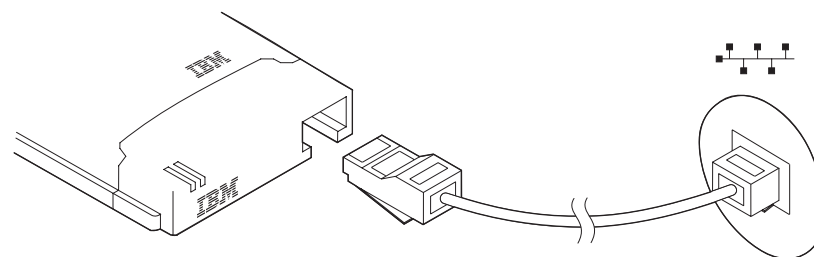

Figure 2. Connecting the network cable to the adapter
3. Connect the network cable as shown in Figure 2.